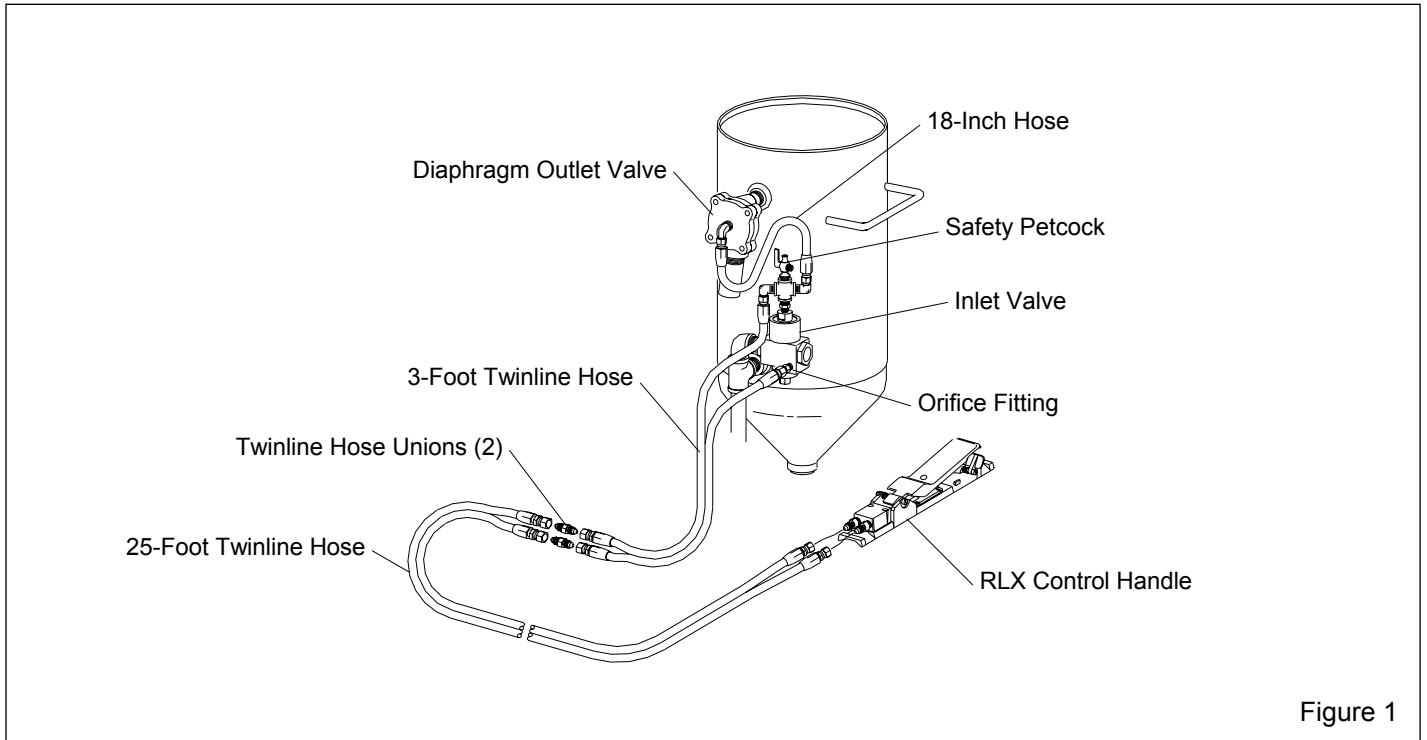

Figure 1
**1.3.3** The components are shown in Figure 1. They include the inlet valve, diaphragm outlet valve, RLX control handle, 25-ft. and 3-ft. long twinline control hoses, 2 control hose unions, and an 18-in. long interconnecting hose.
**1.4.1** Clemco Recova Remote Controls operate pneumatically on return air (See Figure 1). If the control handle lever (the main activator of the system) is in the up (no blast) position, one stream of air travels down the outbound side of the twinline and escapes through an opening located under the lever. The normally-closed inlet valve remains closed, and the normally-open outlet
**2.2 Field Installation:** Refer to Figure 1.
**2.3.7** Attach the 3-ft. twinline control hose to the inlet valve as shown in Figure 1. One side of the hose connects to the unused upper elbow, the other to the orifice fitting.